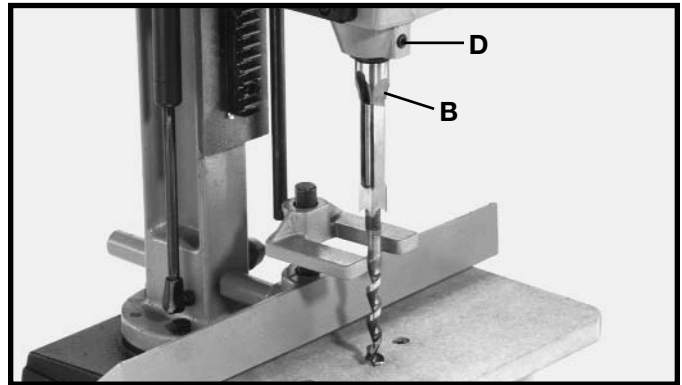
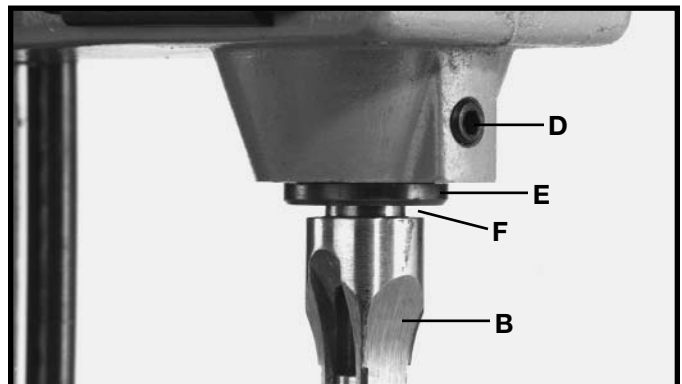

Fig. 21
Fig. 22
3. Loosen screw (D) Fig. 21, and push chisel (B) up through hole in head as far as possible. Then lower chisel (B) 1/16" to 3/16" and tighten set screw (D). **IMPORTANT:** When inserting chisel (B) Fig. 22 into head, there must be a space of 1/16" to 3/16" clearance (F) between the bushing (E) and shoulder of chisel (B) as shown. This assures having proper clearance between the cutting lips of the bit and points of the chisel after the bit is inserted into the chuck.